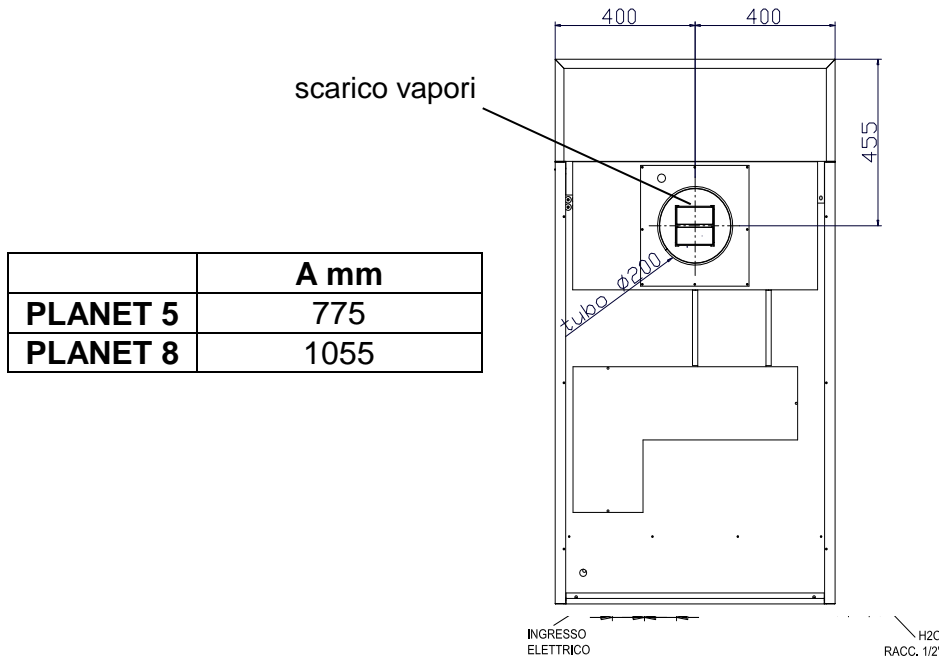

Fig.5.3. Input position of the electric cable, steam outlet and plate.
See (1) of Fig.5.3. for the exact cable output position for the equipment supply.
See Fig.5.3. for the exact connection position.